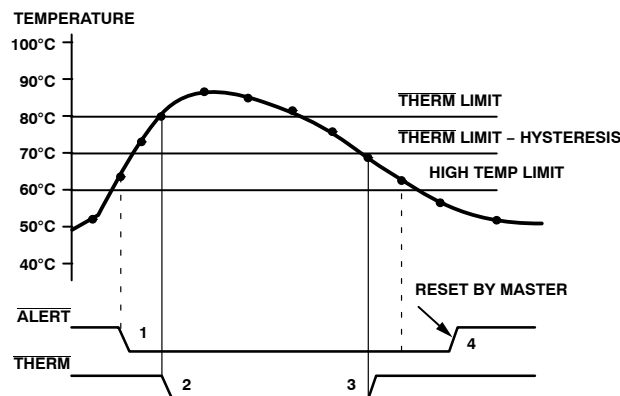

Figure 20. Operation of the $\overline{\text{ALERT}}$ and $\overline{\text{THERM}}$ Interrupts
Figure 20 shows how the $\overline{\text{THERM}}$ and $\overline{\text{ALERT}}$ outputs operate. If desired, use the $\overline{\text{ALERT}}$ output as a $\overline{\text{SMBALERT}}$ to signal to the host via the SMBus that the temperature has risen. Use the $\overline{\text{THERM}}$ output to turn on a fan to cool the system, if the temperature continues to increase. This method ensures that there is a fail-safe mechanism to cool the system, without the need for host intervention.
3. The $\overline{\text{THERM}}$ output de-asserts (goes high) when the temperature falls to $\overline{\text{THERM}}$ limit minus hysteresis. In Figure 20, the default hysteresis value of 10°C is shown.